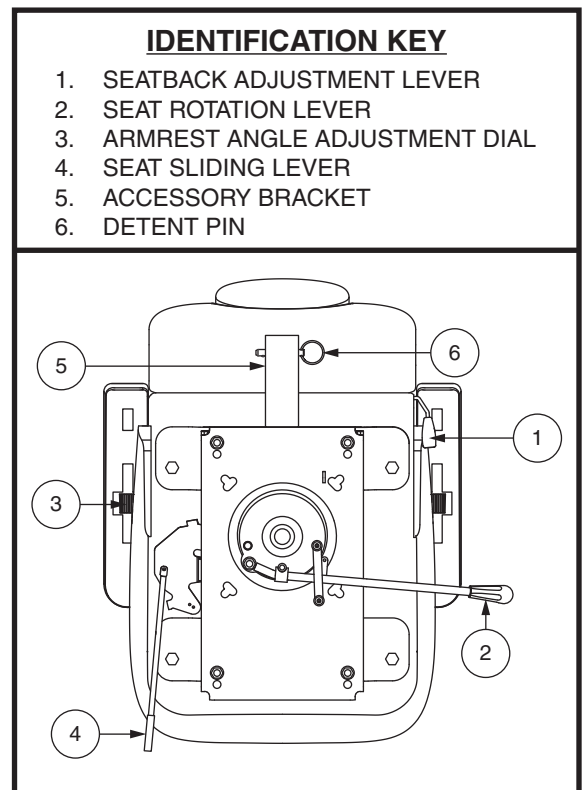

Figure 20. Seat Adjustments – Style B
If your scooter is equipped with a reclining seatback, you can adjust the seatback angle with the seatback adjustment lever. See **figure 20**.
1. Move the seat sliding lever (located at the lower left side of the seat) outward. See **figure 20**.
Armrest angle of your scooter can be adjusted upwards or downwards by turning the adjustment dial. See **figure 20**.
The rear-mounted accessory bracket allows you to attach a personal accessory such as a basket, walker holder, or oxygen tank to the back of your scooter. Utilize the detent pin to securely mount your item to the accessory bracket. See **figure 20**. See your authorized Provider for details.